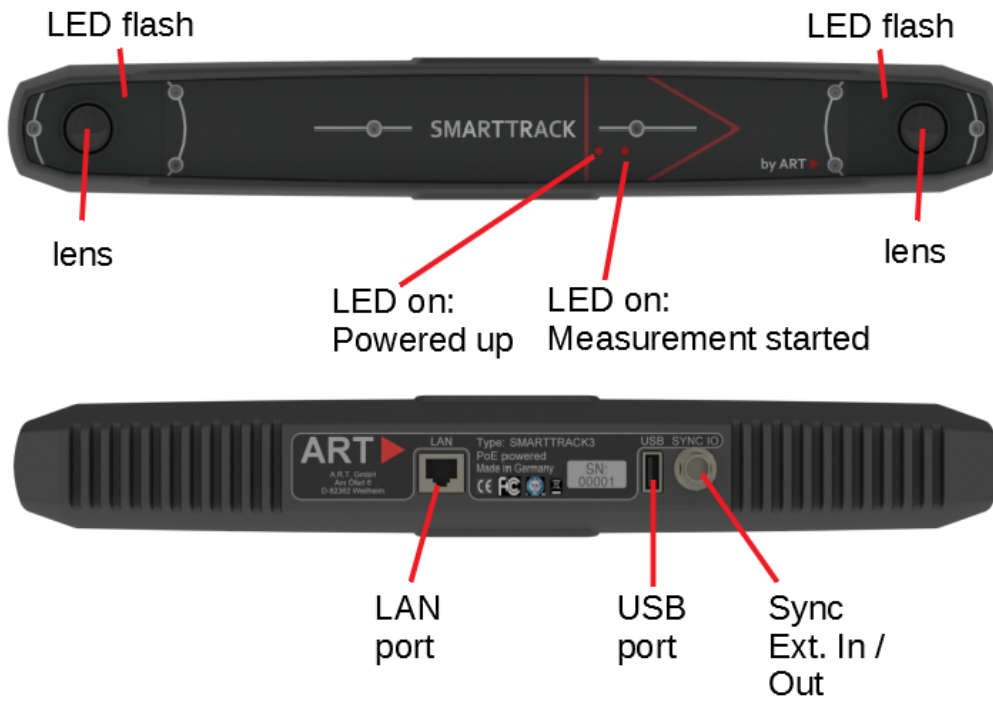

Figure 4.7: **SMARTTRACK3** - Front & Back view
**Description** The *SMARTTRACK3* is a fully integrated stand-alone infrared optical tracking system (see figure 4.7 on page 32). It is designed to be used in small volumes of approx. 2m3.